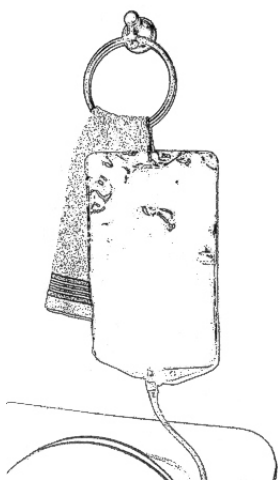

Figure 1
2) Secure Drain Bag in a elevated position above your Anchor. (Figure 1)